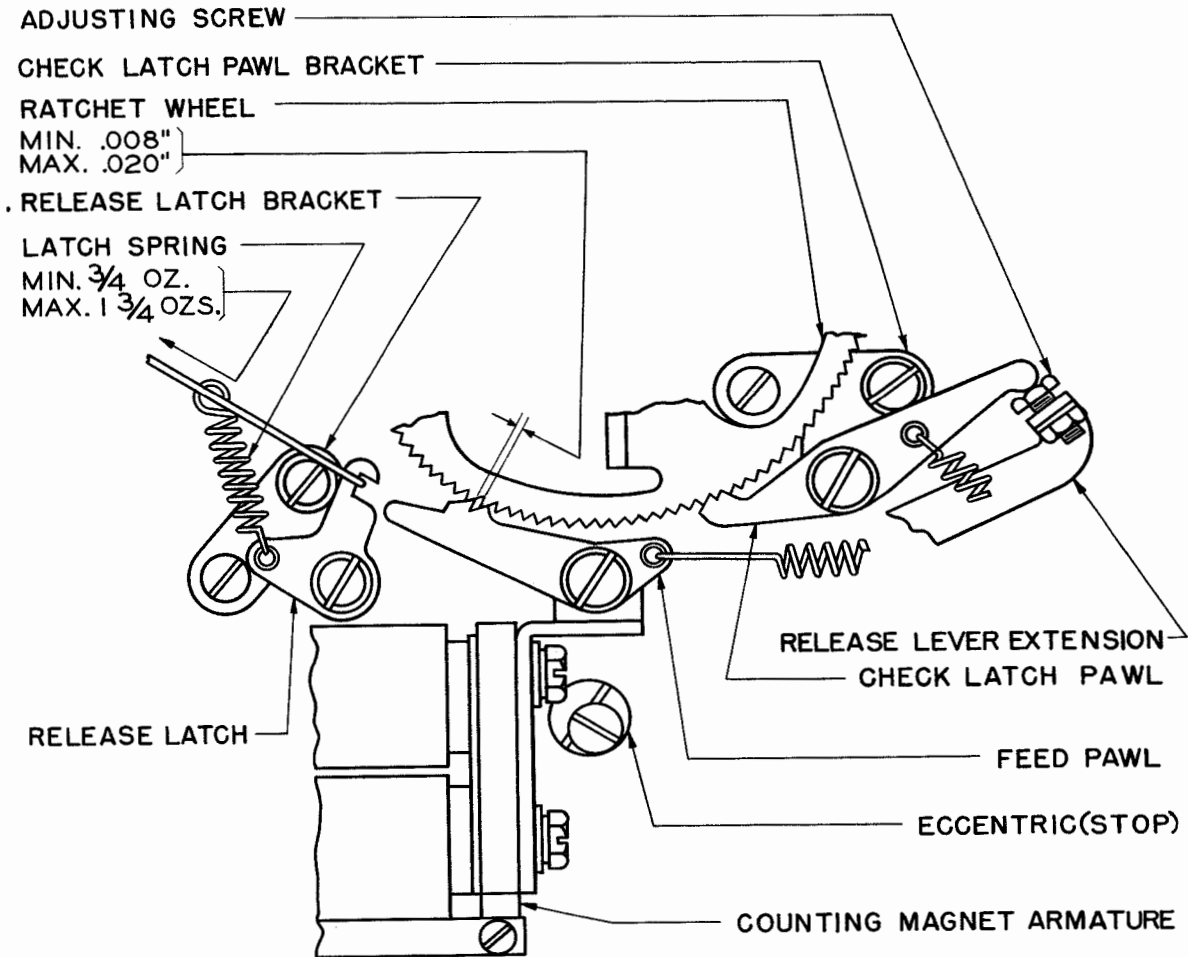

Figure 26
2.57 Counting-magnet Check-latch-pawl Bracket: Counter feed-pawl teeth should over-travel the ratchet-wheel teeth by the amount specified in the figure when the counting-magnet armature is in its operated position (against the magnet cores). See Figure 26.
the latch moving when the release latch is in its unlatched position. See Figure 26.